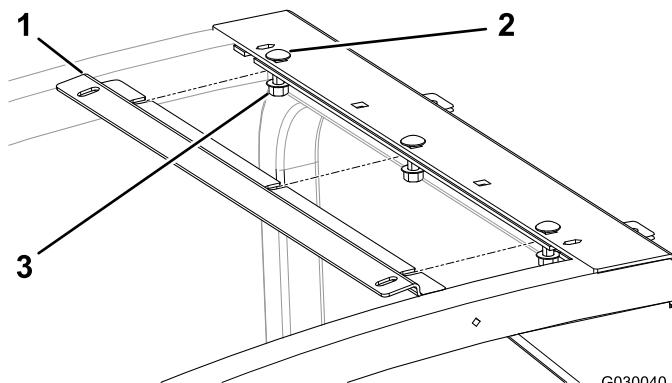

Figure 1
3. Loosen the existing 3 flange nuts secured to the 3 carriage bolts on the canopy frame (Figure 1).